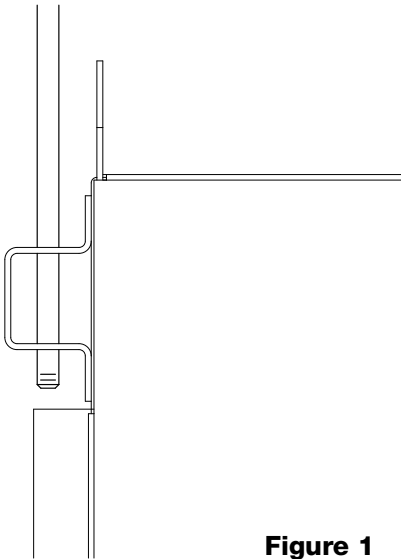

Figure 1
3. Use the brackets shown in Figure 1 to secure the ERM. These brackets are designed for 3/8 in. threaded hanging rods.